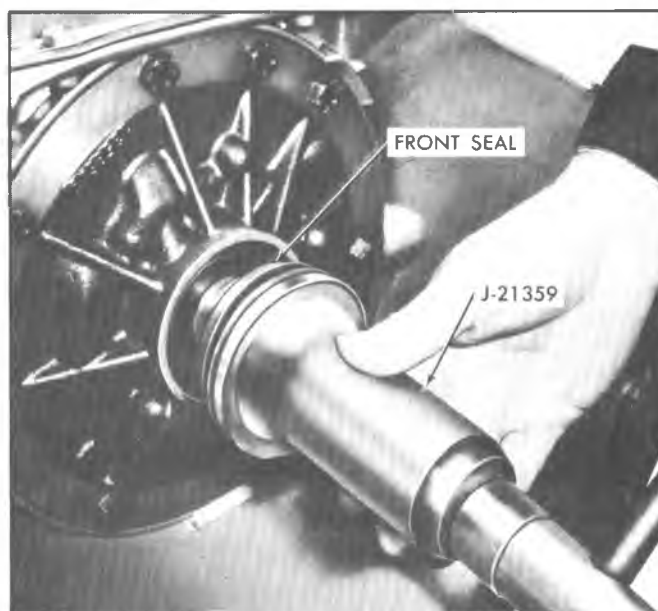

Fig. 138T--Installing Pump Seal
22. If necessary to install a new front seal, use a non-hardening sealer on outside of seal body; and using Tool J-21359, drive seal in place (fig. 138T).